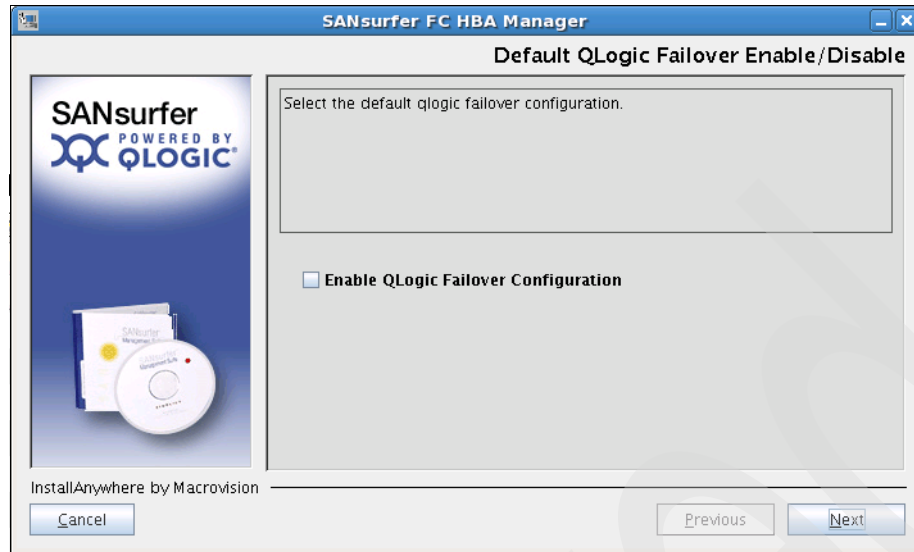

Figure 4-28 Linux SANSurfer install
3. Confirm the first windows by clicking **Next**, and select the components to install. Continue the installation process. *Do not* select to Enable QLogic Failover Configuration, because we are planning to install RDAC as the multipath driver. See Figure 4-28.